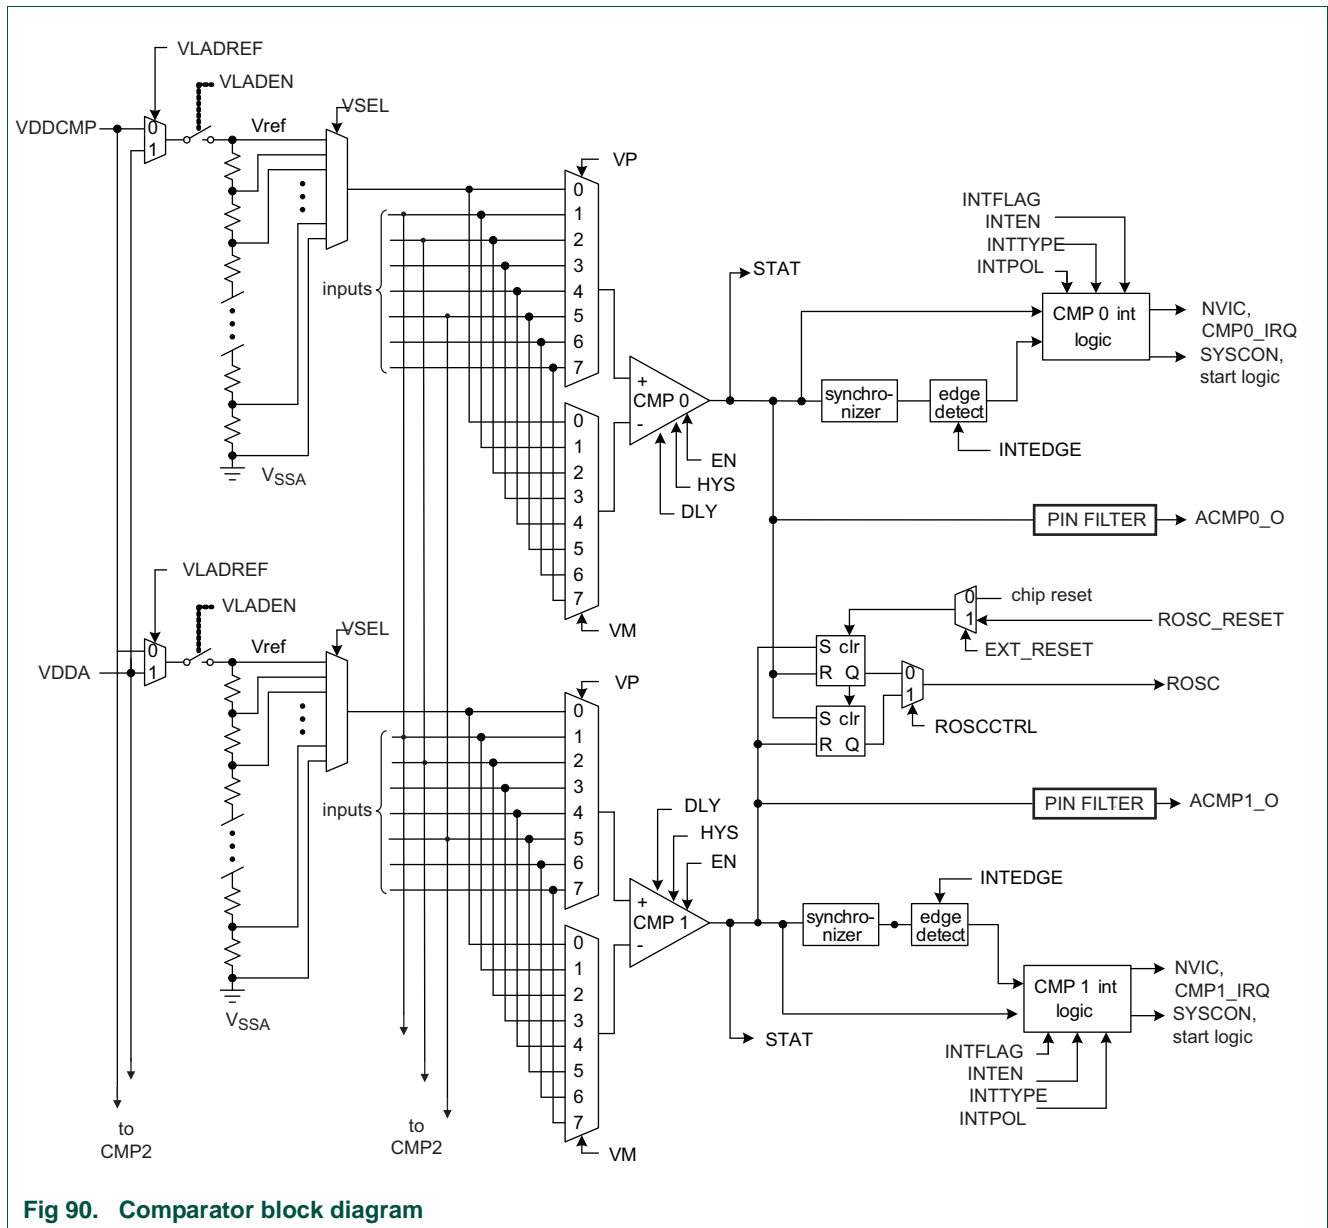

Fig 90. Comparator block diagram
**Remark:** Enable the temperature sensor in the PDRUNCFG register if you are using it as comparator inputs VM or VP. See Figure 90.